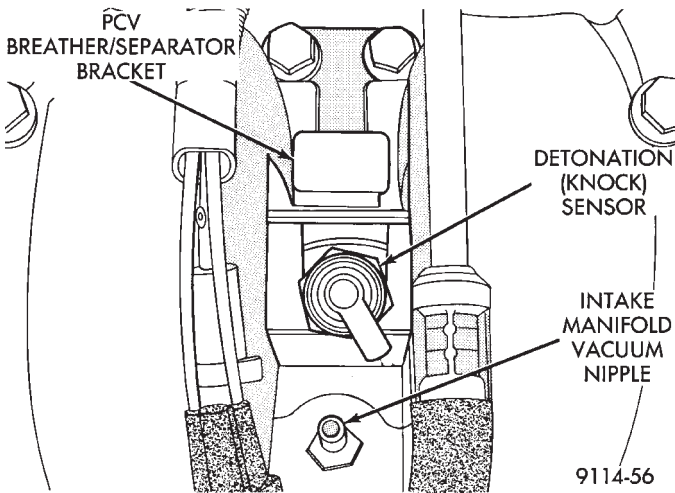

Fig. 17 Detonation (Knock) Sensor Electrical Connector
(25) Inspect the detonation (knock) sensor electrical connector (Fig. 17).